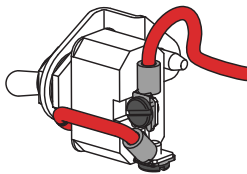

Figure 26
4. Unscrew both terminals and remove red pump wires from the back of the switch (see Figure 26).